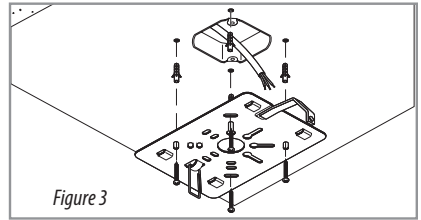

Figure 3
3. Fix the connecting plate onto the ceiling and put the wire through center hole using the mounting screws and anchors included. (Figure 3)